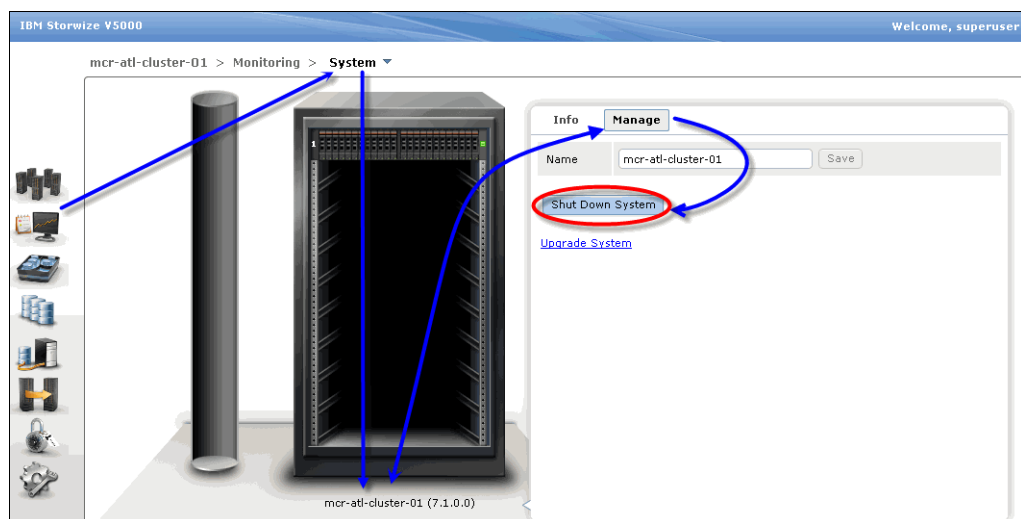

Figure 12-76 Shut down system via Monitoring system GUI
- d. Click **Shut Down System** to shut down, as shown in Figure 12-76.